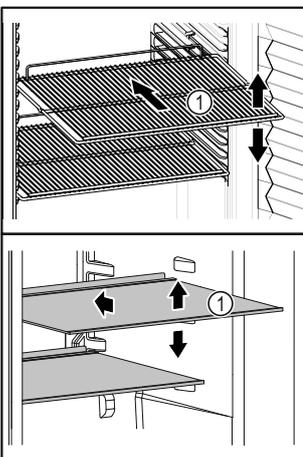

Fig. 66 Example illustration
- ❑ If storage surfaces Fig. 66 (1) are movable, adjust them according to height.